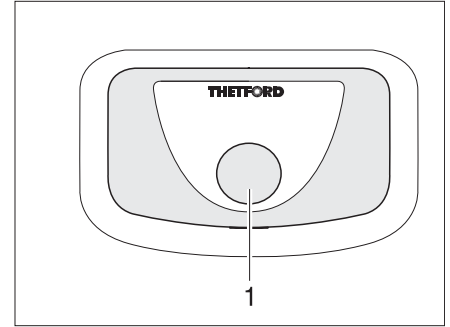

Fig. 133 Thetford toilet flush button
- For flushing, press the blue flush button (Fig. 133,1).